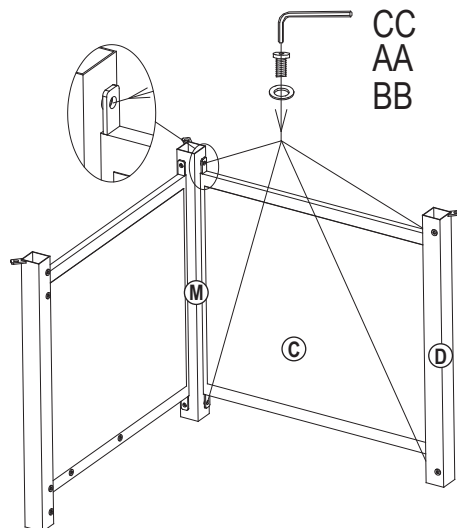

Figure 3
3. Attach back panel (C) to back-left leg (M) and back-right leg (D) with bolts (AA) and washers (BB) using hex screw driver (CC), (see Figure 3).